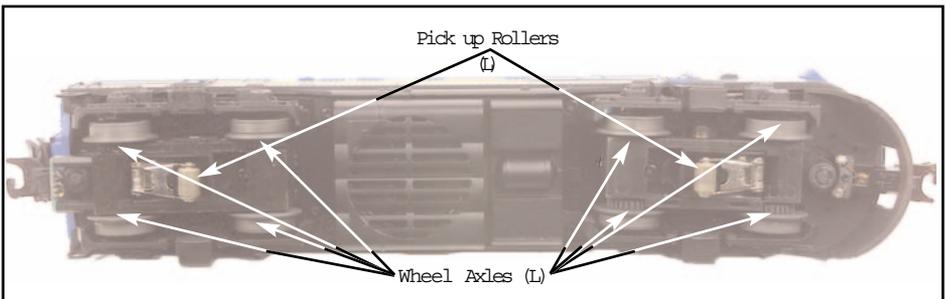

Figure 2 - Lubrication Points on the Engine
**3.** You should lubricate the wheel axles and pickup rollers to prevent them from squeaking. Use light household oil and follow the lubrication points marked L in Fig. 2 on page 8. Do not over oil. Use only a drop or two on each pivot point.
You should regularly lubricate the engine to prevent them from squeaking. Use light household oil and follow the lubrication points marked L in Figure 2. Do not over oil. Use only a drop or two on each pivot.